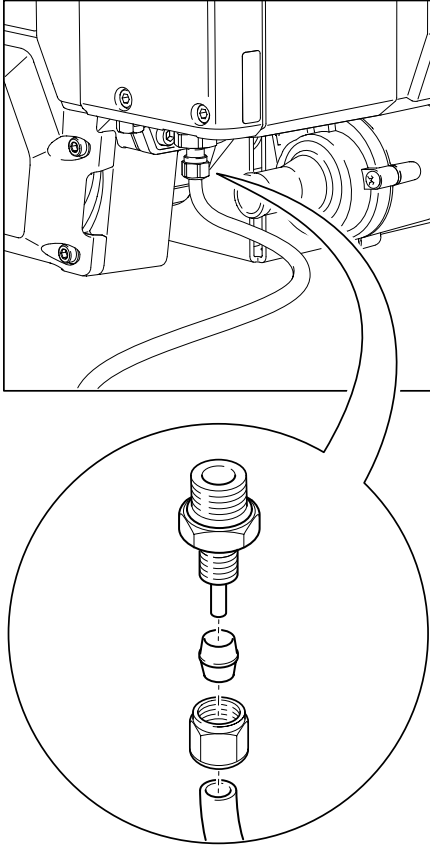

Figure 4-17. Disconnect Fuel Line(s).
- b) Disconnect the fuel line(s) — if required. See figure 4-17.